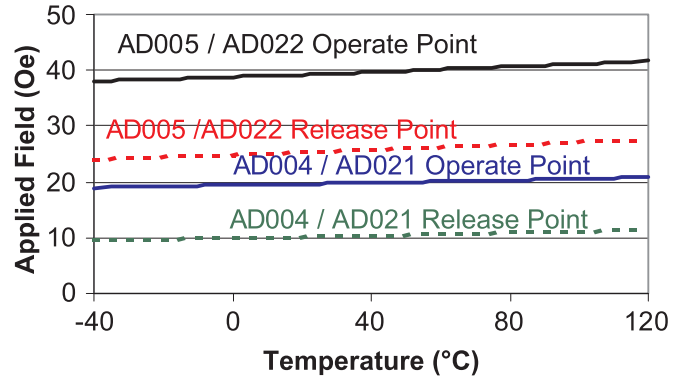

**Figure 10. A GMR Switch with an external power switch IC for a high-power output, bullet-proof system.**
- Added cross-axis versions to Figures 10 and 11 graphs (p. 8).